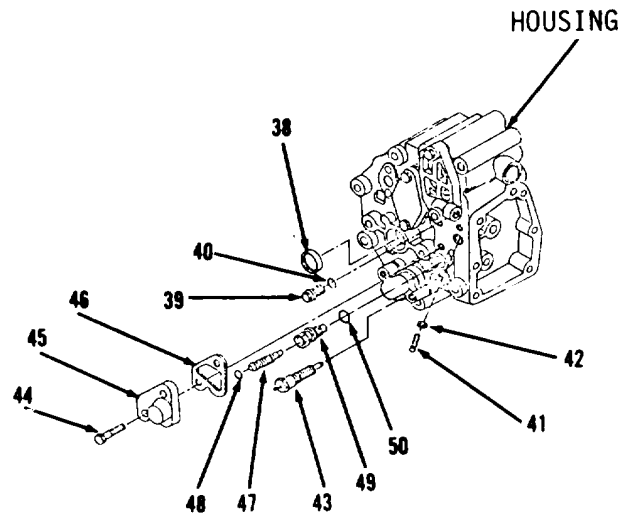
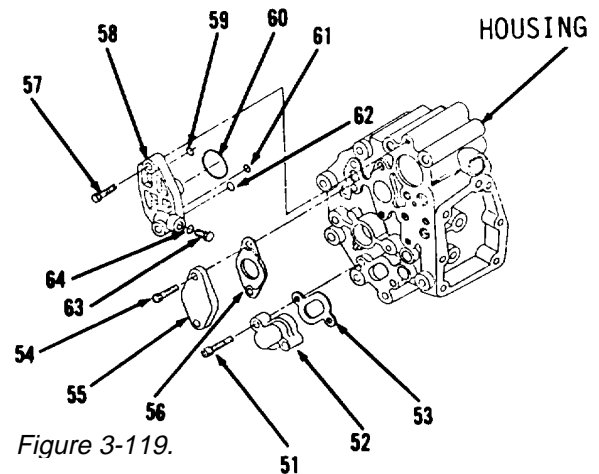

Figure 3-118.
Figure 3-119.
19. Remove and discard seal (38, Figure 3-118) from housing.
20. Remove plug (39) and preformed packing (40). Discard preformed packing (40).
21. Remove screw (41) and nut (42).
22. Remove insulator (43).
23. Remove two bolts (44), cover (45) and gasket (46). Discard gasket (46). Remove all gasket material from mounting surfaces.
24. Remove valve (47) from body (49).
25. Remove preformed packing (48) from valve (47). Discard preformed packing (48).
26. Remove body (49) and preformed packing (50). Discard preformed packing (50).
27. Remove two bolts (51), cover (52) and gasket (53, Figure 3-119). Discard gasket (53). Remove all gasket material from mounting surfaces.
28. Remove two bolts (54), cover (55) and gasket (56). Discard gasket (56). Remove all gasket material from mounting surfaces.
29. Remove two bolts (57), cover (58) and preformed packings (59 thru 62). Discard preformed packings (59 thru 62).
30. Remove plug (63) and preformed packing (64). Discard preformed packing (64).